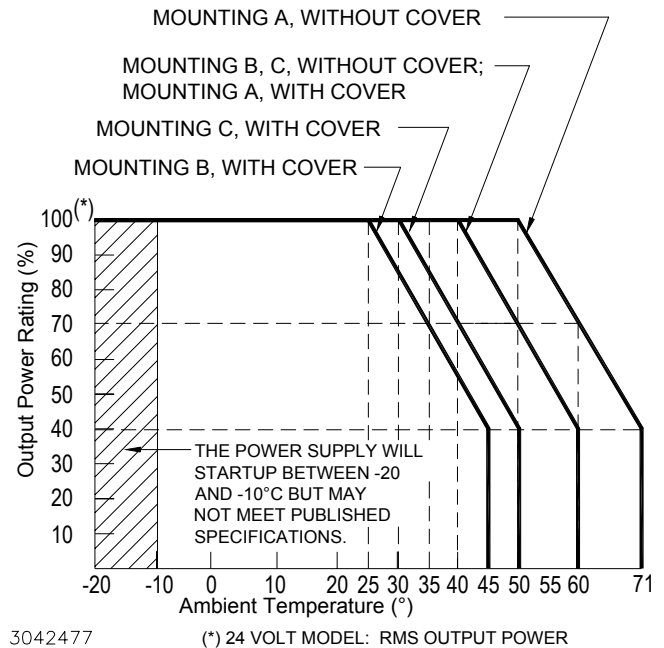

FIGURE 1. OUTPUT POWER VS. TEMPERATURE
(1) An overvoltage shuts down the output. Recover by recycling a-c input (30 second delay required before resetting).
(2) The current limit is rectangular. After the overload is removed, output is automatically restored.
(3) Bandwidth 100 MHz. Ripple and noise will be approximately 1.5 times these values in the operating temperature range -10 ~ 0°C. The ripple and noise values tabulated are valid when the output is derated as shown in Figure 1 from 50 ~ 65°C
(4) Used for remote programming of output voltage. See Section V OPERATION, REMOTE VOLTAGE PROGRAMMING.
(5) Peak Current: 10A (useful for motor start applications). Thermal protection (24V model only) cuts off output voltage if overtemperature detected; after sufficient cooling, output voltage returns automatically.
OPERATING TEMPERATURE: -10 to 71°C (start up -20 to -10°C). See the derating, Figure 1. Do not allow the power supply to become dust covered because that will decrease the cooling efficiency of the unit and cause insulation to deteriorate.
MOUNTING THE POWER SUPPLY: Refer to Figures 4 and 5. The unit may be mounted on one mounting surface. Note the restrictions for maximum penetration of mounting screws. The air surrounding the power supply must not exceed the ambient values given in the graph in Figure 1.
2. REFER TO FIGURE 1 FOR OUTPUT POWER VS. TEMPERATURE FOR MOUNTING METHOD SELECTED.